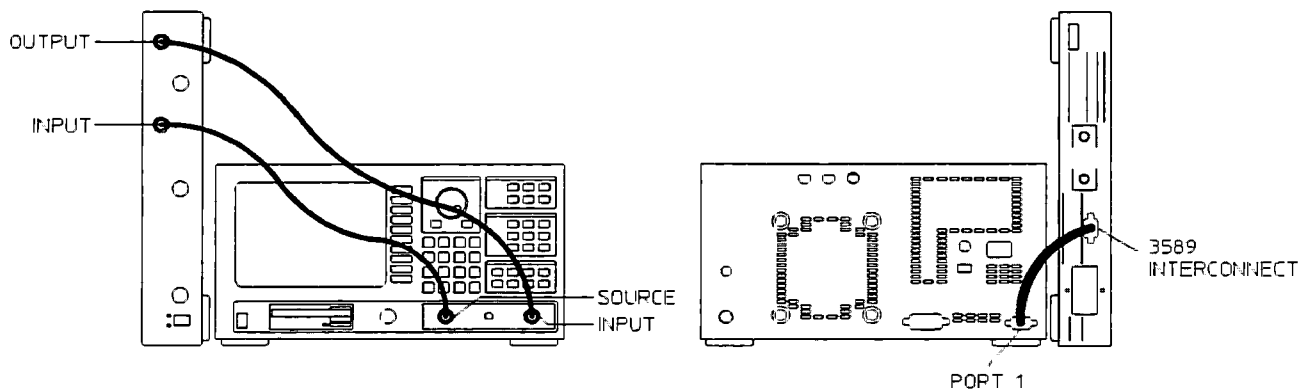

Figure 4-26. Troubleshooting Setup
- b. Position the test set on its side next to the analyzer's display (see figure 4-26). Using 50 Ω N cables, connect the test set's **INPUT** connector to the analyzer's **SOURCE** connector and the test set's **OUTPUT** connector to the analyzer's **INPUT** connector. Using the interconnect cable, connect the analyzer's **PORT 1** connector to the test set's **3589 INTERCONNECT** connector.
The test set is in its test position (see figure 4-26). The analyzer's SOURCE is connected to the test set's INPUT, the test set's OUTPUT is connected to the analyzer's INPUT. PORT 1 and PORT 2 are not connected.